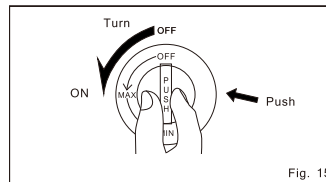
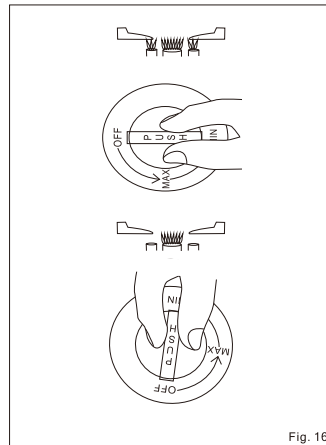

Fig. 15
Fig. 16
a. Open the main gas valve. push the gas control knob in and turn it towards the MAX position (counter-clockwise) until you hear the ignition click. Make sure that the burner has been lit. (Fig.15) in this position, double burner will light up both the small and large burners. To use only the small burner, release the gas control knob and turn it further to the MIN position. (Fig.16)